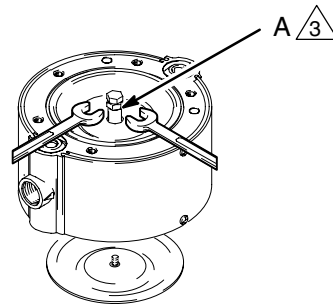

Fig. 5
2. Unscrew one diaphragm (6) from the shaft (5) by hand. See Fig. 5.